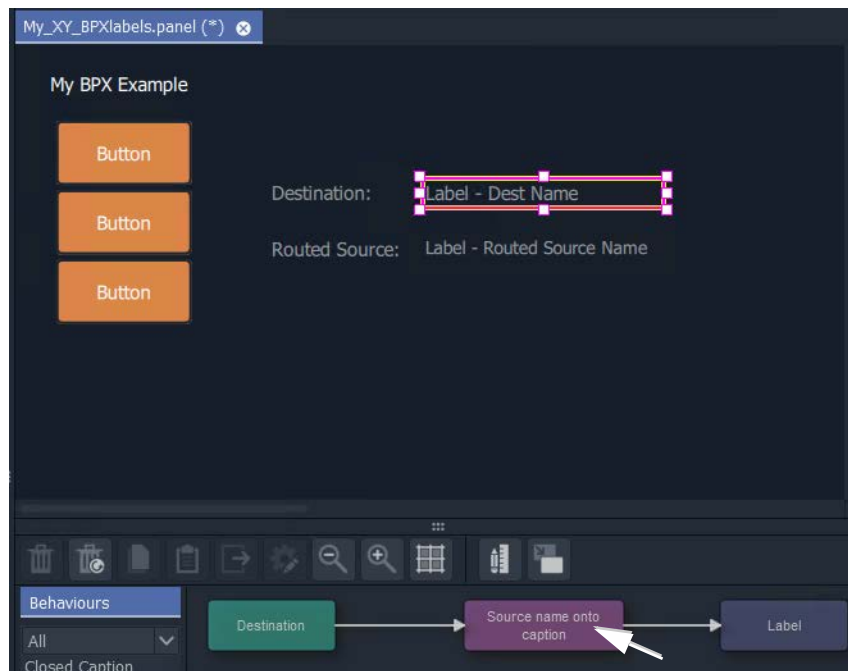

Fig. 14-57: Select a Label
- 8 Select the Label to see its Behaviours and Bindings. See Figure 14-57.